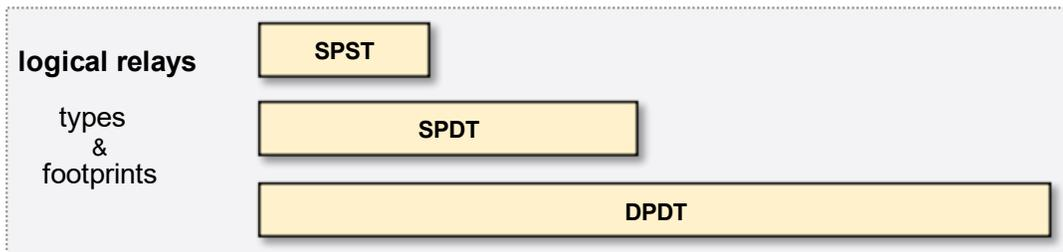
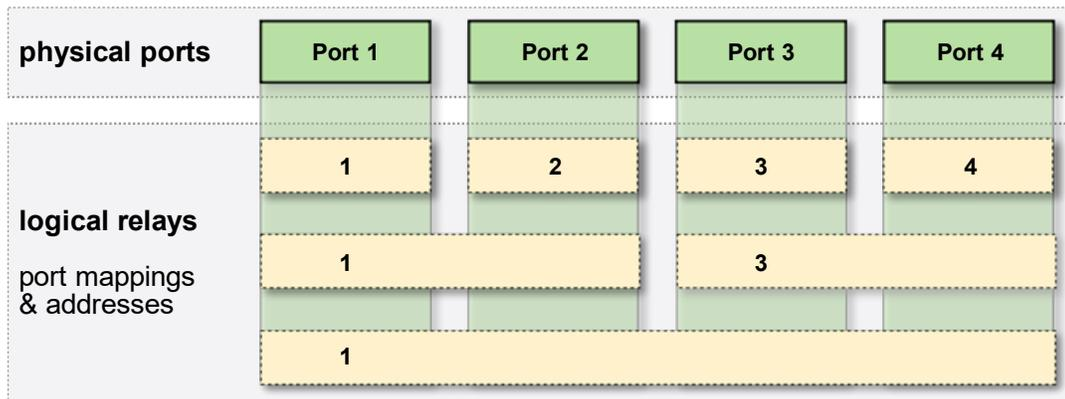

Figure D-2
Figure D-3
The above points are visualized in the following **Figure D-2** and **Figure D-3**.
Figure D-2 illustrates the number of physical relay ports occupied by various logical relay types (often referred to as the footprint)
Figure D-3 displays valid positions and addresses for various logical relay footprints juxtaposed against the underlying physical relay ports. Notice that logical relays always occupy one, two, or four (1, 2, or 4) physical relay ports. Also notice that logical relays occupying more than one (1) physical relay port are always combined in multiples of two (2), and are always aligned at an odd address.